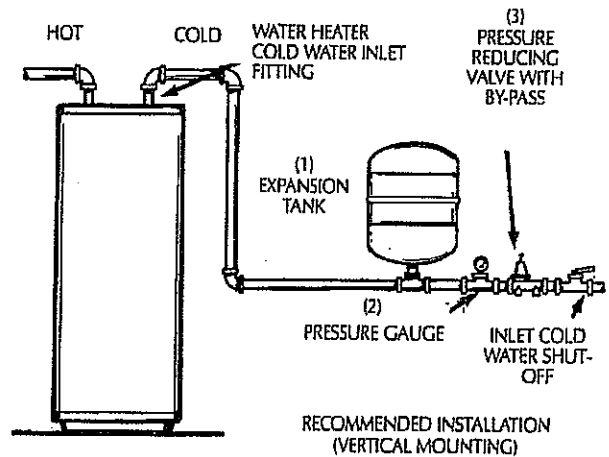
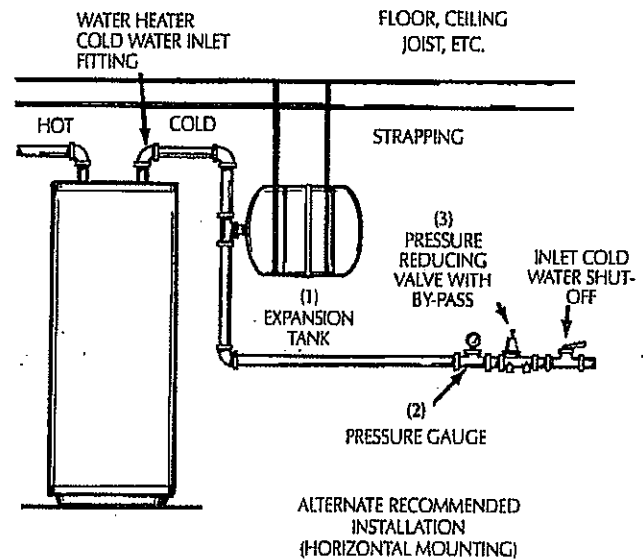

Figure 1
Figure 2
2. The items which must be installed in sequence in the cold water line are (1) the EXPANSION TANK must be installed at least 18 inches away from the cold water inlet fitting on the water heater, (2) the PRESSURE GAUGE, and (3) the PRESSURE REDUCING VALVE, if required. See Figure 1.
3. The expansion tank is designed to be supported by the system piping in the vertical position. If however, the expansion tank must be installed horizontally as shown in Figure 2, it must be supported by adequate strapping (not supplied).
Figures 1 and 2 on page 5 show the correct valves and fittings that you will need to install your expansion tank. A threaded (1/2") water connection is supplied on the tank bottom.
2. The expansion tank is designed to be supported by the system piping in the vertical position ( See Figure 1). If however, the expansion tank must be installed horizontally as shown in Figure 2, it must be supported by adequate strapping (not supplied).
3. Install expansion tank, pressure gauge and pressure reducing valve, if required, as shown in Figure 1 or 2.